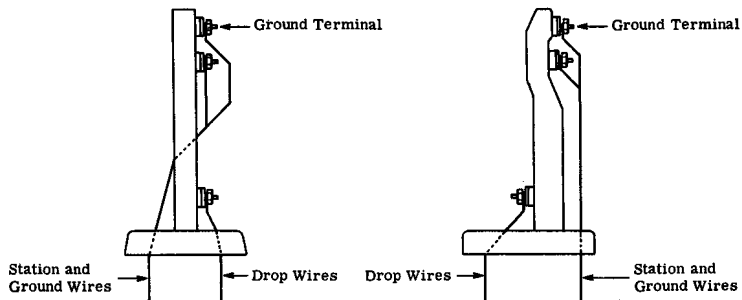

Figure 5 Wiring for Fused Protectors
3.03 For mounting, attach the protector to the mounting surface with the proper fastening device. A fused protector must be mounted so that drop and station wires do not cross at the point of entry to the protector (see Figures 5 and 6). Note the direction from which drop and station wires approach the protector location, and mount the protector accordingly. When the protector is mounted on a vertical surface it must be in a vertical position (base at the bottom).
3.04 Wire termination instructions are as follows (see Figures 5 and 6):